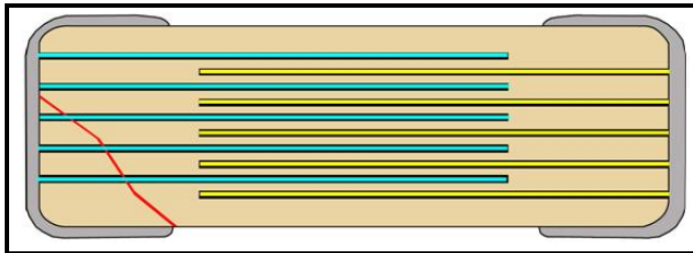

Figure 8 – Blue represents (-), Yellow represents (+), flex crack only crosses electrode of like polarity.
- For **mid** capacitance values, KEMET offers the Open Mode solution. The Open Mode device creates a safe zone on both ends of the capacitor (See Figure 8), so that only the innermost portion of the capacitor is active area. Any board flex crack that occurs (remember, this crack always starts within the end termination) can only cross electrodes of like polarity; thus eliminating the possibility of a short-circuit failure from a board flex crack. As with the FE-CAP, active area has been sacrificed in order to create the safe zones on both ends of the chip; thus, the Open Mode solution is only applicable for mid capacitance values. To order this device, place an “F” for “Fail Open” in the 6th digit of the KEMET part number. Open Mode can be ordered with Flexible Termination by changing the 6th digit of the KEMET Part Number to a “J”.